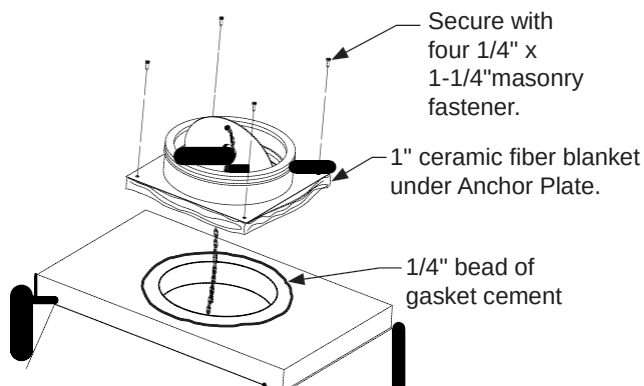

**Figure 47 - Installing Anchor Plate**
14) Finally, set the Dome Top into position (Figure 47, page 27). Be sure that it is flush in every direction as you place it on the crest of the smoke dome wall assembly. After this is done, proceed to section on Installing Damper and Chimney System on page 28.
Apply balance of gasket cement in a 1/4" bead on top of smoke dome approximately 1 1/2" around periphery of chimney hole. Install damper assembly on top of unit pressing damper and insulation blanket into cement (Figure 47). Secure with four 3/16" X 1 3/4" masonry screws (included).